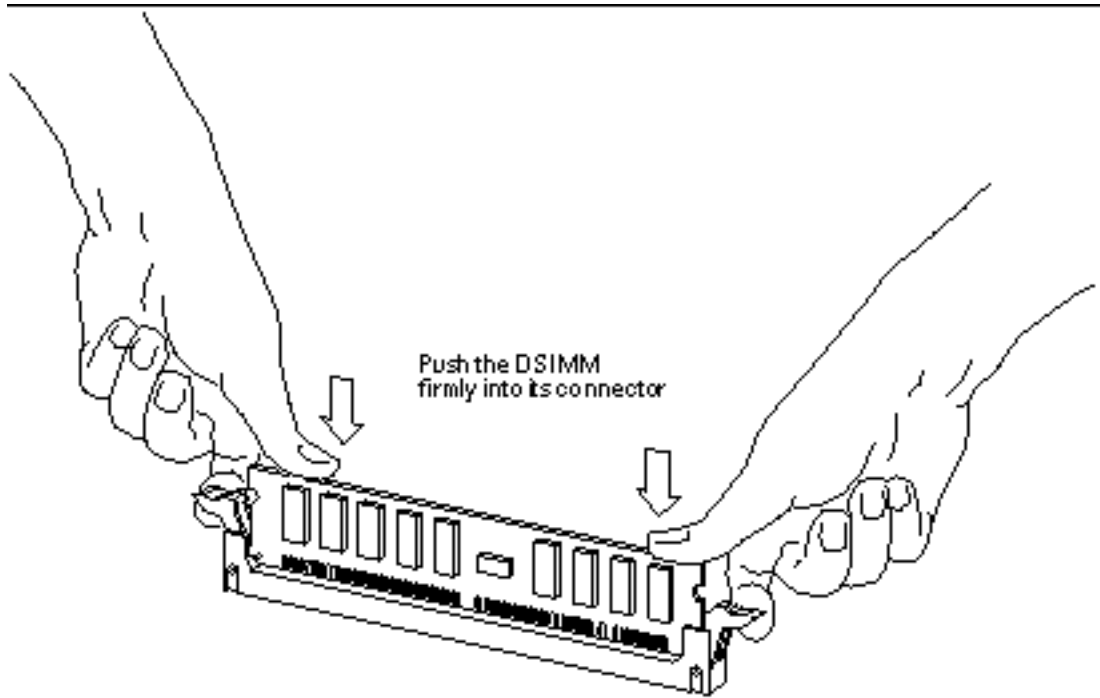

Figure 11-17 Installing a DSIMM
4. Place your thumbs as shown in Figure 11-17 and push the DSIMM firmly into its connector.